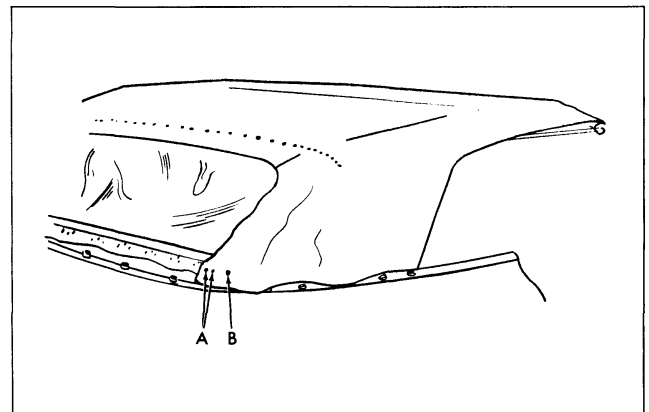

Fig. 21-32 Tacking Top Material
38. Using previously marked lines (ends of trim stick) as locating reference, tack top material to rear and rear quarter trim sticks. A in Fig. 21-32 shows top material installed to rear trim stick at inboard edge.